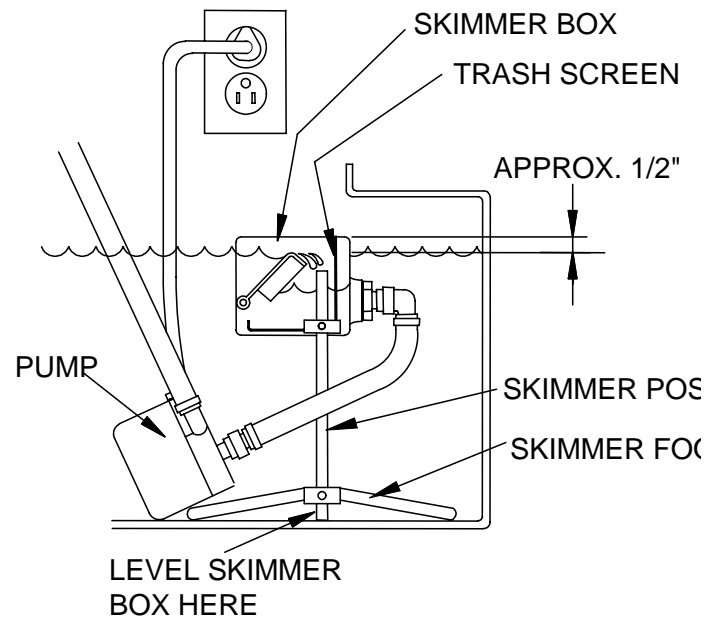

Figure 6
3. Install the appropriate skimmer box in the coolant sump. The skimmer box can be set on the floor of the sump or mounted on the skimmer foot and post. If the foot and post is used, install the box on the post and adjust the height of the box. Level the box by adjusting the amount of the post protruding below the Skimmer Foot (see Figure 6).
4. Place the skimmer pump in the coolant sump and connect the inlet port to the elbow on the skimmer box with a length of 1/2" ID PVC tube (see Figure 6).